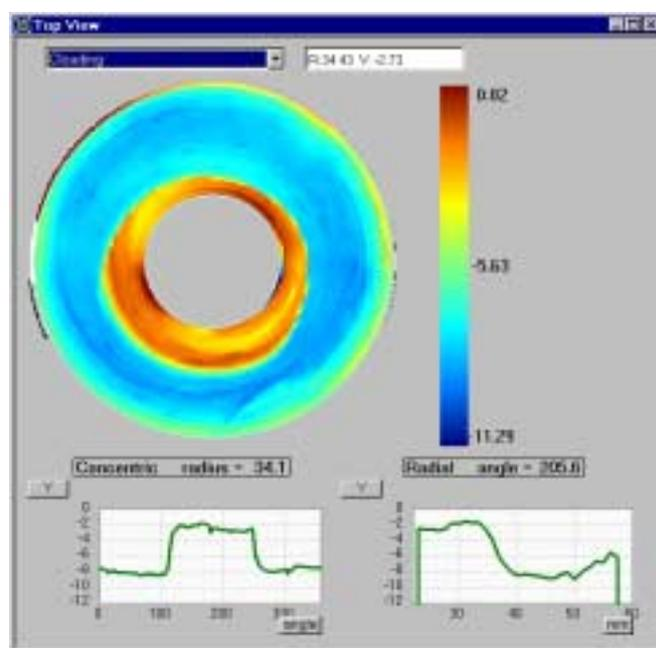

Fig 4: Clouding
**Clouding** is caused by incorrect separation of the substrate from the stamper. It can barely be detected by the human eye on the substrate, but after sputtering it appears as different grey shades. It cosmetically unacceptable and may cause jitter problems especially when there are sharp transitions along the track of the disc. Ideally, clouding should be detected at the moulding stage. By comparing the plus and minus first order diffraction it is possible not only to identify clouding very sensitively but also to classify it quantitatively as acceptable or not (Fig 4). Clouding can be avoided by reducing the tolerances in the mould or by reducing the mould temperature.